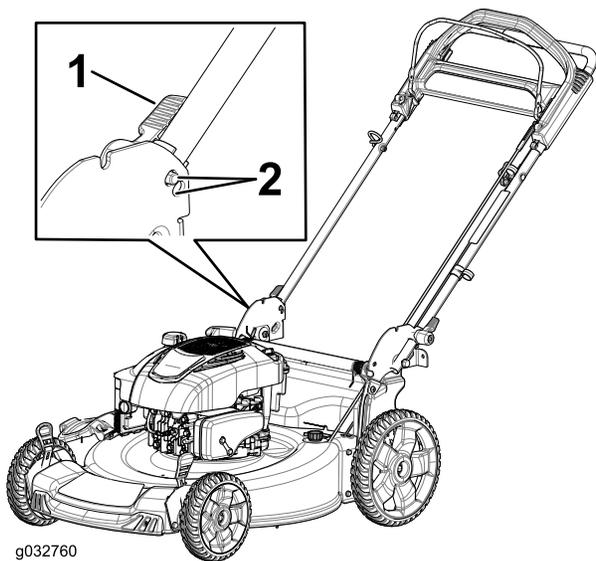

Figure 4
2. Set the handle lock in one of the two positions (Figure 4) until the pin clicks in place to lock the handle into the operating position.